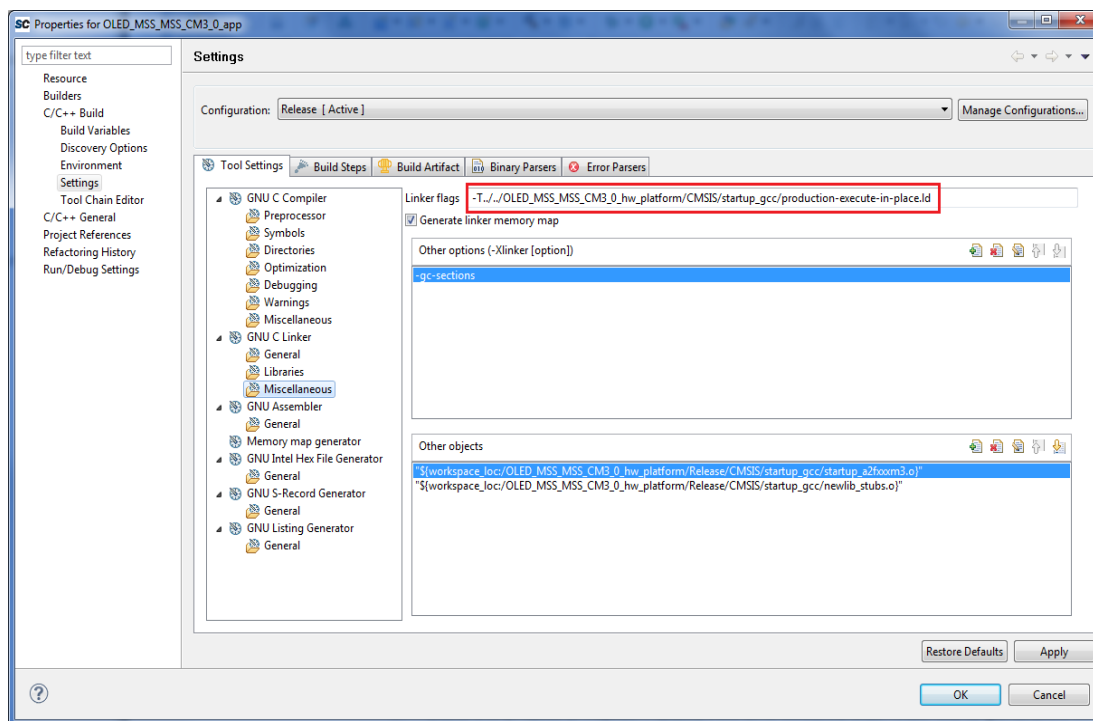

Figure 3 · Linker Script Settings
4. Provide the release mode linker script file to the linker by changing the **'Linker flags'** field to **"-T./../OLED_MSS_MSS_CM3_0_hw_platform/CMSIS/startup_gcc/production-execute-in-place.ld"** as shown in the Figure 3 .